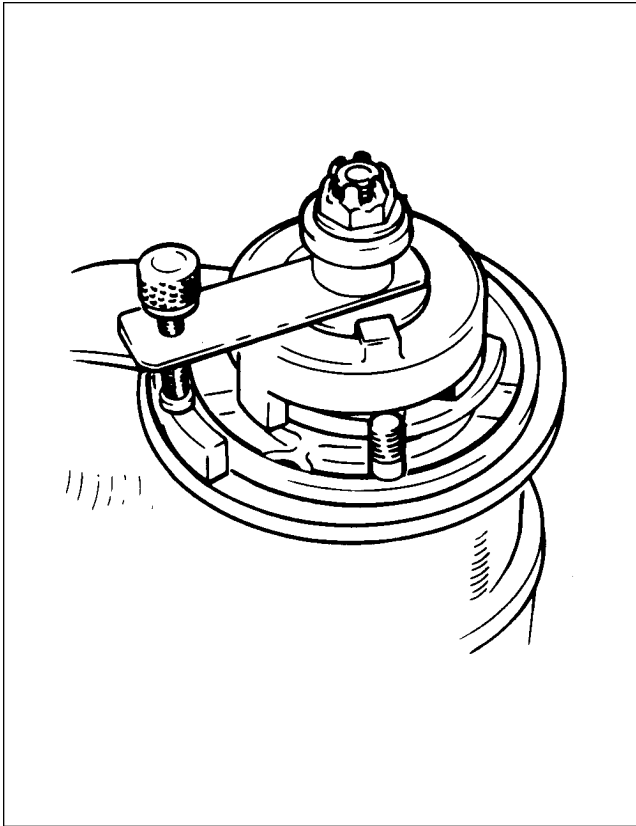

Figure 8-13. Rotor Holding Tool Installed
2. Loosen the nut securing the drive plate to the magneto shaft sufficiently in order to install the Bendix 11-8465 Rotor Holding Tool under the nut and flat washer as shown in Figure 8-13. Tighten the nut enough to hold the tool securely.
1. Install the Rotor Holding Tool 11-8465 under the drive shaft nut and washer as shown in Figure 8-13.